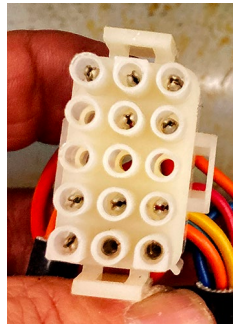

Figure 28
32. Reach up behind the component box and disconnect the 12-pin gray harness and 15-pin black harness from the rear of the component box (see Figures 28, 29 & 30).